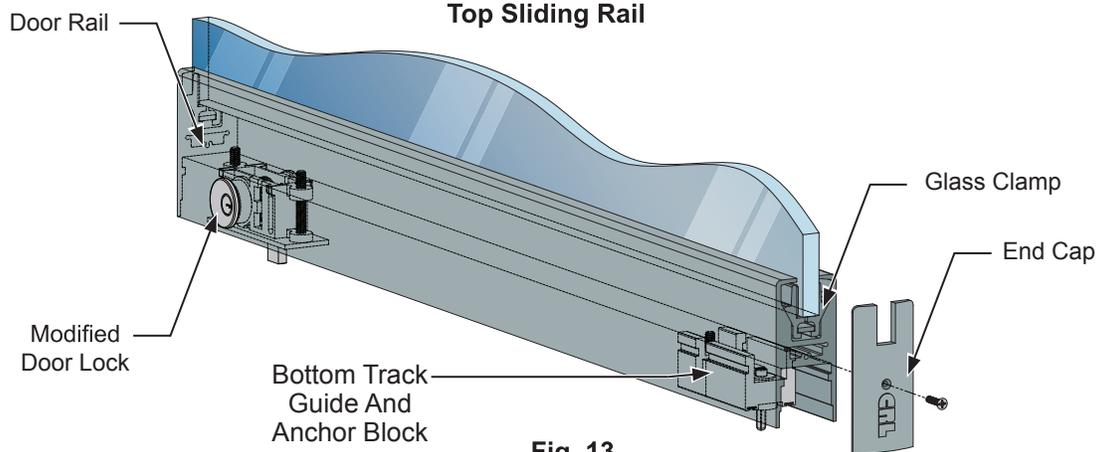

Fig. 13
1. Remove both End Caps from the rail. (Fig. 13)